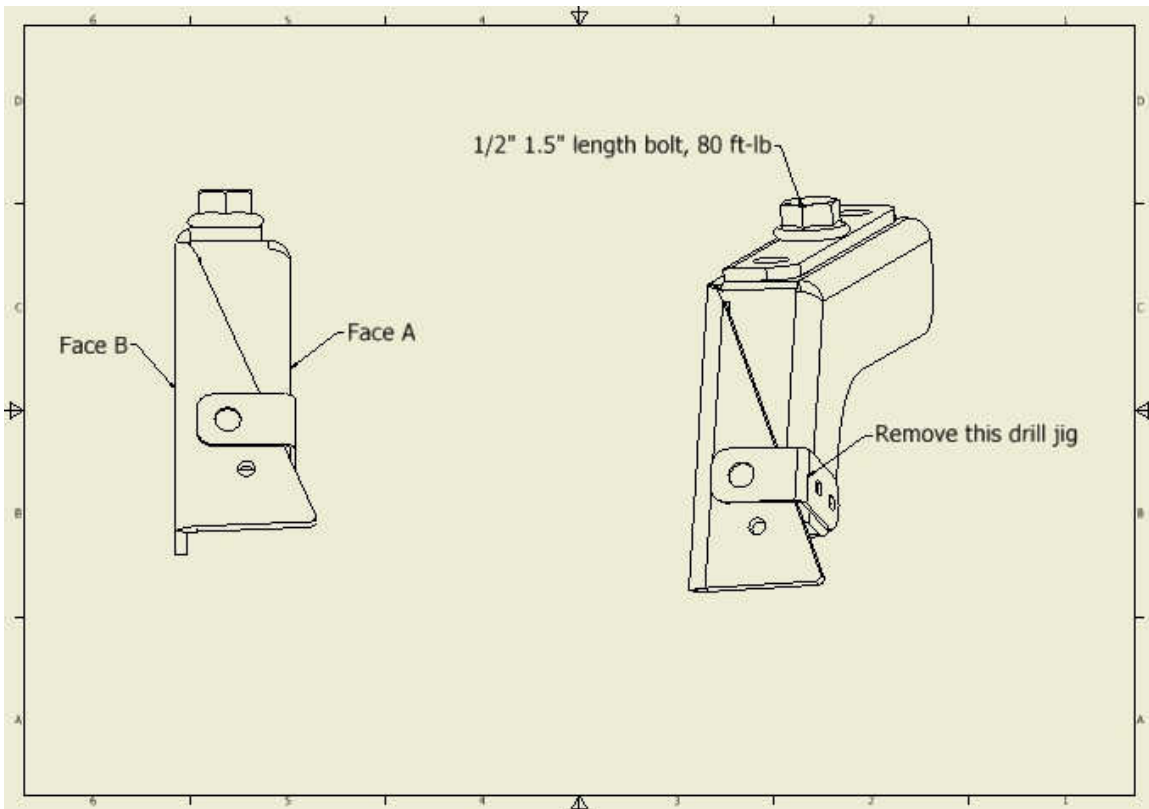

Figure 16 Clamping to make two planes parallel
5. Clamp the reinforcing bracket and the flange of trunion plate (Figure 16) to ensure face A and B are parallel. If not, apply additional clamp as necessary.
6. Tighten the 1/2" 1.5" length bolt to 80 ft-lb (Figure 16). Remove the drill jig.